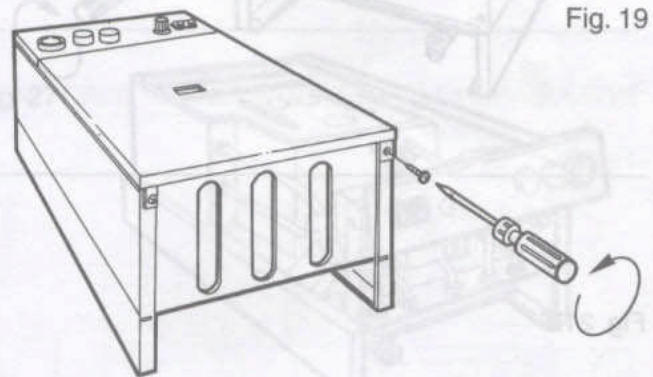

Fig. 19
- 5.4.1 – Remove the 2 screws that secure the upper part of the front panel of the casing (Fig. 19).